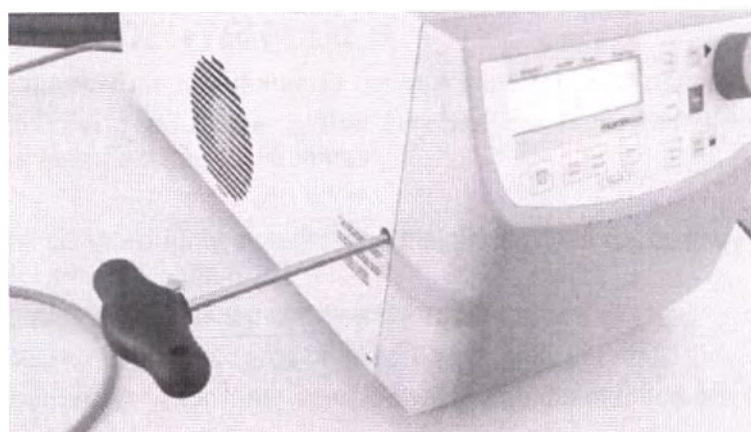

Fig. 38
3. Insert the hex-nut wrench from the centrifuge accessory set into the hole (see Fig. 38).